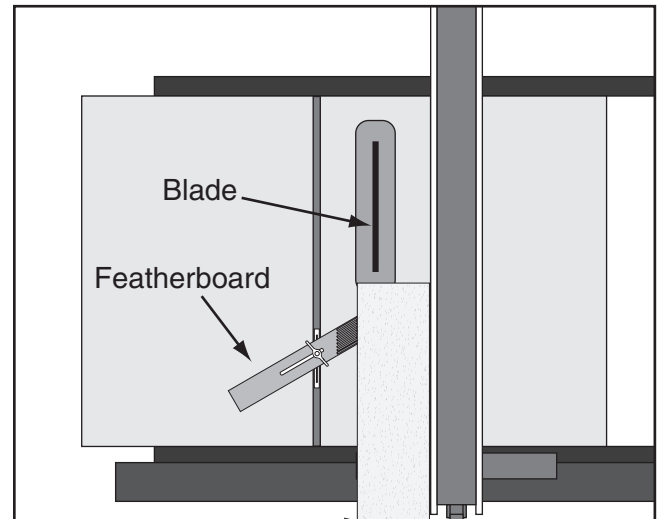

Figure 74. Featherboard installed in miter slot and supporting workpiece for ripping cut.
3. Slide featherboard miter bar into miter slot, making sure fingers slant toward blade, as shown in **Figure 74**.